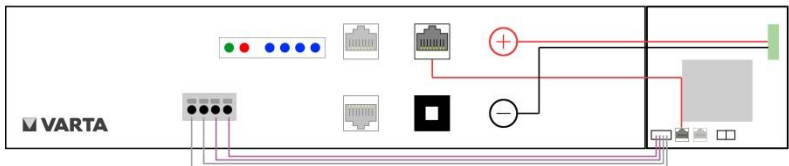

Figure 19: Internal connections
- Make the connections to the battery module as shown in Figure 19: "Internal connections".